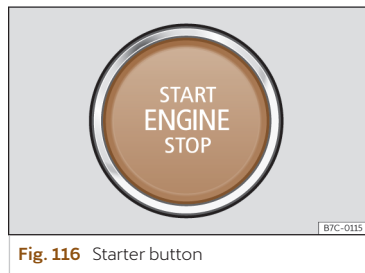

Fig. 116 Starter button
When entering the vehicle, the start button >>> Fig. 116 flashes to draw attention to it.
- Press the start button >>> **Fig. 116** without pressing the accelerator. There must be a valid key in the vehicle for the engine to start. After starting the engine, the lighting of the START ENGINE STOP button remains fixed indicating that the engine is running¹⁾.
- Briefly press the start button >>> **Fig. 116**.